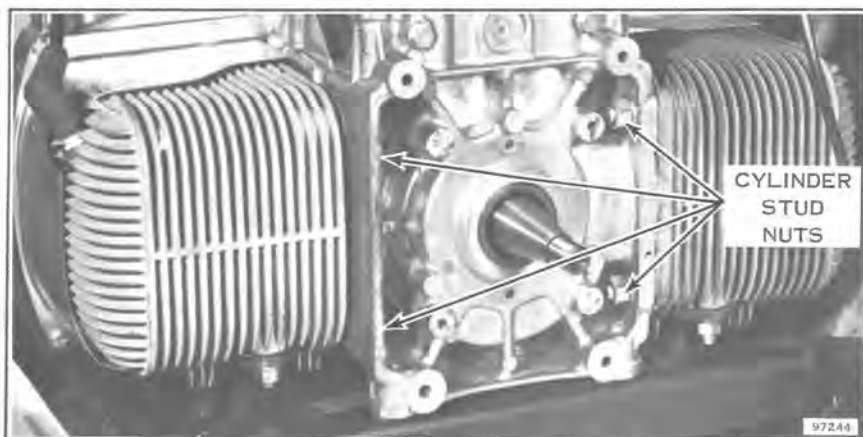

Figure 9-6
- g. Remove the eight cylinder stud nuts and lockwashers. The cylinder barrels can now be removed from the crankcase. See Figure 9-6.